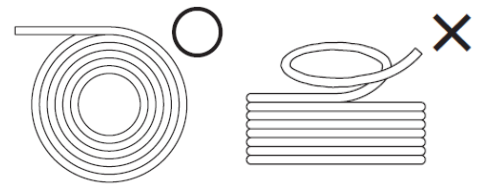

Fig. 11 Pulling out cables/hoses
- Lay out the cables/hoses in the cable carrier in a way that prevents them from twisting and meandering. Do not pull out the cables/hoses from a drum or coil in spirals (Fig. 11).